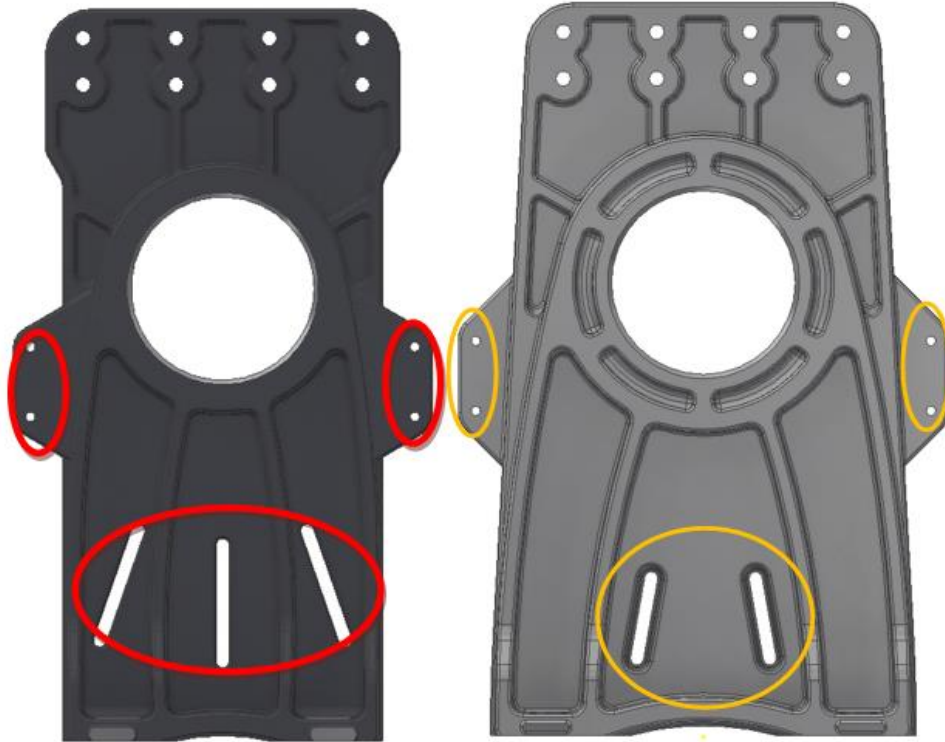

Figure 4-14: Outboard Stand Mounting Locations GT11 (left) and GT31 (right)
- Attach the BS rope retainer plates to the outboard stands using the provided bolts and the holes shown in Figure 4-14. Confirm the outer edges of the retainer plates align so that the retainer rods can be inserted through both plates. Securely tighten the bolts.
- Attach the retaining rods to the retainer plate using the provided bolts. In addition, attach three rods to the Outboard Stand slots illustrated in Figure 4-14. Take care to maintain the parallelism (squareness) of the plates with each other.
- Attach the retaining rods to the retainer plate using the provided bolts. In addition, attach two rods to the outboard stand slots illustrated in Figure 4-14. Take care to maintain the parallelism (squareness) of the plates with each other.